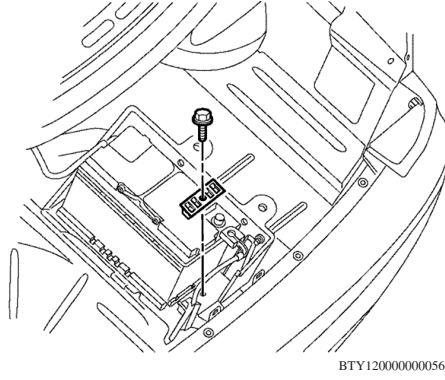

Fig. 3 Battery hold down removal
7. Remove bolt from battery hold down clamp and remove hold down, **Fig. 3**.
2. Install battery hold down clamp and bolt. **Torque** bolt to 35 inch lbs., **Fig. 3**.